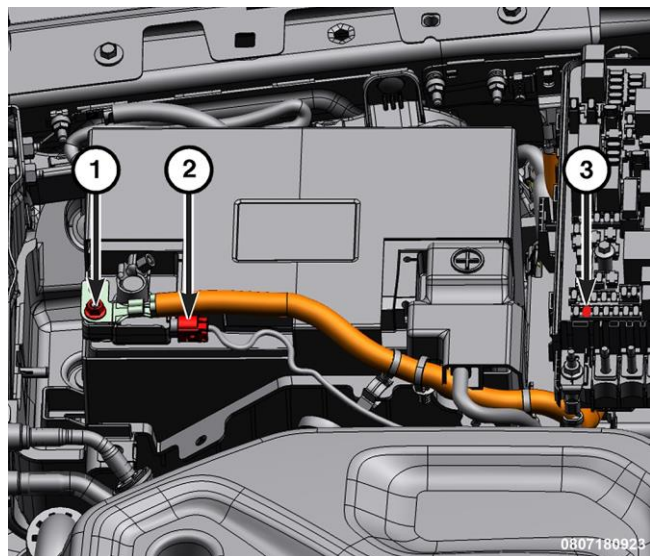

Figure 32 – Negative Battery Cable, Fuse F09 and IBS Connector
39. Remove the cover, connect the negative battery cable to the IBS and tighten the fastener (1) to 10N·m (7 ft. lbs.) (Figure 32).
40. Install the F09 (5 amp) IDCM fuse (3) in the Power Distribution Center (PDC) (Figure 32).
41. Connect the IBS harness connector (2) (Figure 32).